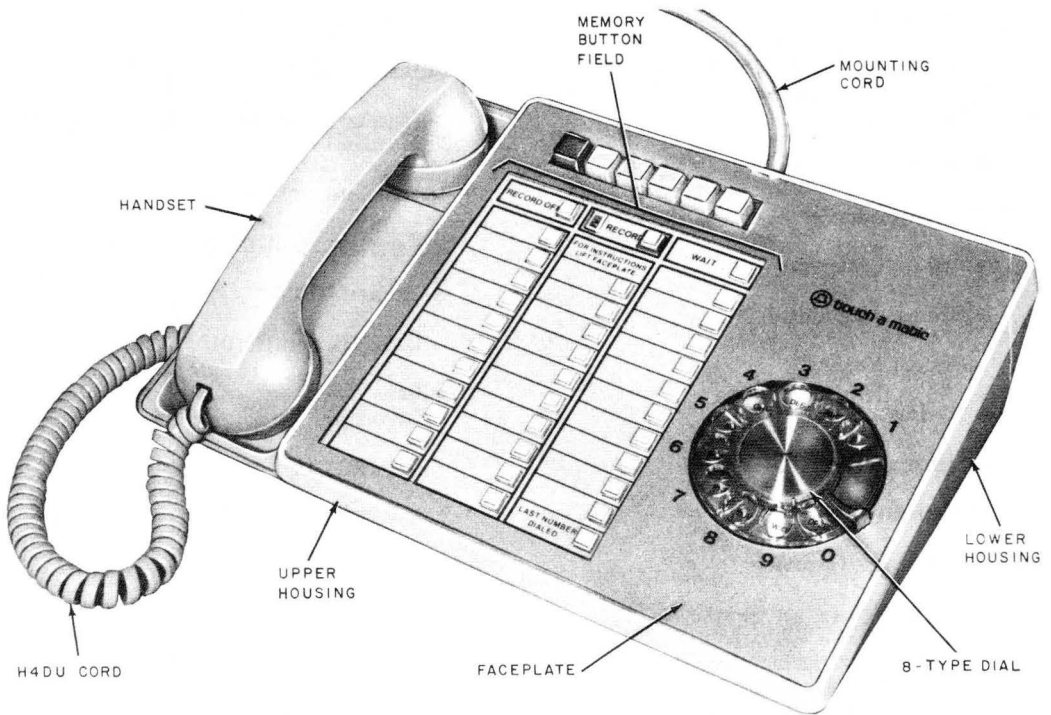

Fig. 1—872A1M Telephone Set
1.01 This section contains identification, installation, connections, operation, and maintenance information on the 872A1M TOUCH-A-MATIC® telephone set (Fig. 1).
- Revise Fig. 1 through 6, 8 through 12, and 14